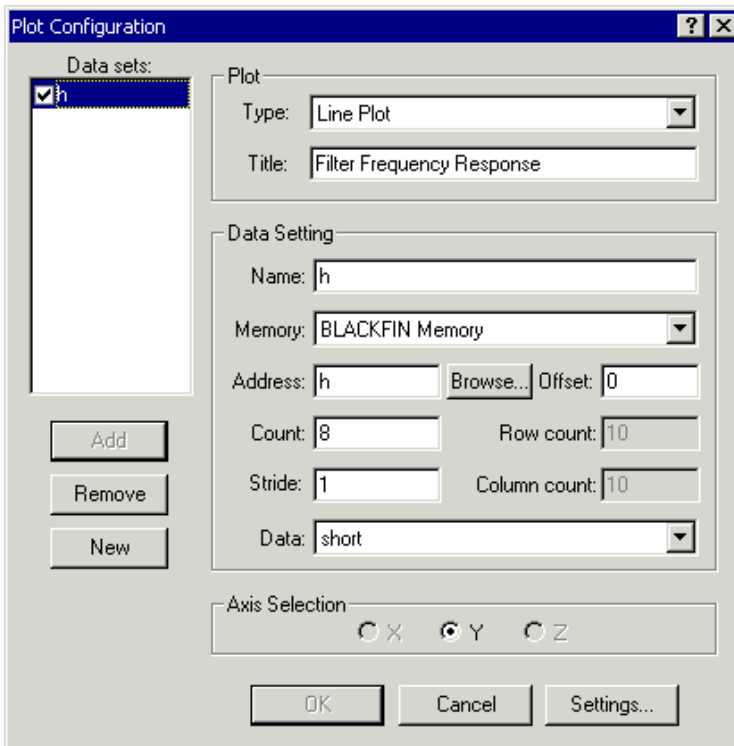

Figure 2-34. Filter Frequency Response Data Set
2. Set up the Filter Frequency Response plot by completing the **Plot** and **Data Setting** group boxes as shown in Figure 2-34 on page 2-48.